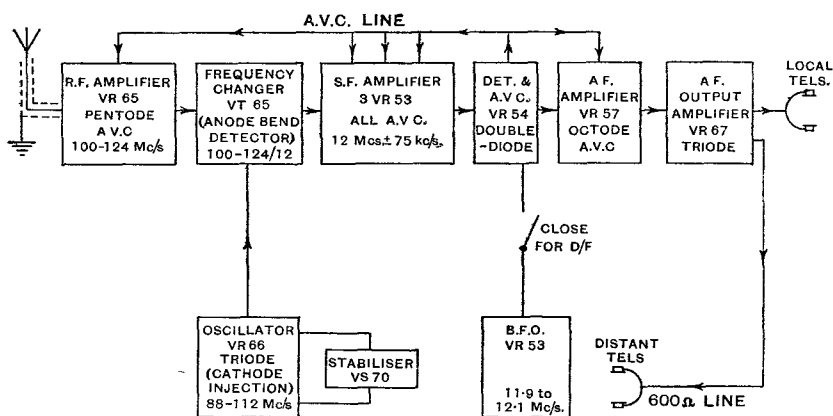

FIG. 82.—Block diagram, R.1132.
6. **Circuit.**—A schematic diagram is at fig. 82. The “R.F. unit” is contained in a screened box inside the receiver, and comprises pentode R.F. amplifier and frequency changing valves, the latter having a separate triode oscillator, the anode voltage of which is stabilised by a neon stabiliser. The “first detector” and oscillator have a common cathode resistance, so that frequency changing comes about by “cathode injection”. Coupling between the R.F. and F.C. valves is by tuned transformer; there are thus four tuned R.F. circuits (aerial, R.F. anode, F.C. grid, and oscillator circuits). They are tuned by four ganged variable condensers with small trimmers for alignment. The oscillator circuit tunes from 88 to 112 Mc/s. The neon stabiliser is outside the R.F. screening box.